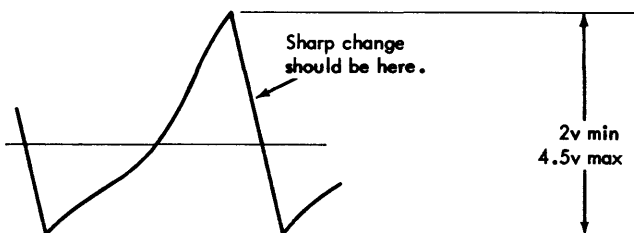

Figure 55. E-1 Magnetic Emitter Waveform
- c. With the emitter wheel operating continuously at low speed, the waveform must appear as shown in Figure 55 with an output of 2 to 4.5 volts peak-to-peak. Refer to step 2.
4. If the observed waveform appears as shown in Figure 55, reconnect the white lead to terminal 8, and the black lead to terminal 9. If, however, the waveform has a rapid rise to the positive pulse and a slow drop to the negative pulse, reverse the leads when reconnecting them to the terminal block.